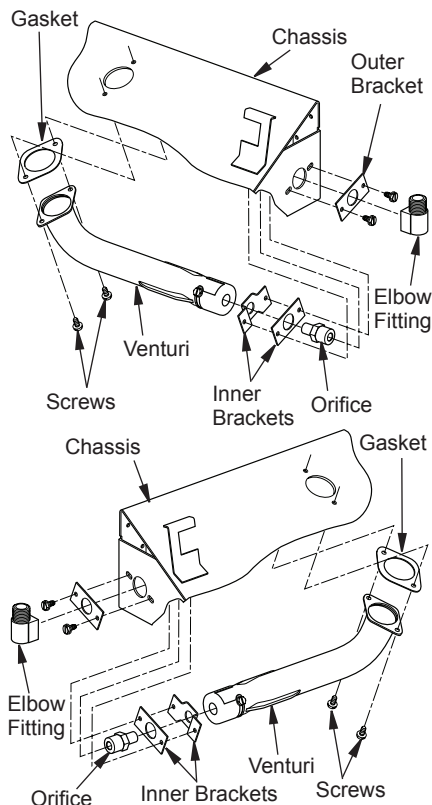

Figure 8 - Repositioning Gas Inlet to Left Side of Unit
1. Remove venturi and gasket by unscrewing two screws under chassis (see Figure 8).
2. Unthread elbow fitting from orifice (see Figure 8).
3. Remove orifice and brackets by unscrewing two screws on right side of unit (see Figure 8).
5. Install venturi and gasket under bottom burner and into repositioned orifice and brackets (see Figure 8).
6. Thread elbow fitting back into orifice. Apply thread sealant to orifice threads (see Figure 8).
7. Install gas connector tube that comes with log set into gas inlet fitting (see Figure 8).
8. Install supplied brass adapter fitting that comes with log set into fireplace gas supply pipe. Use thread sealant (see Figure 8).